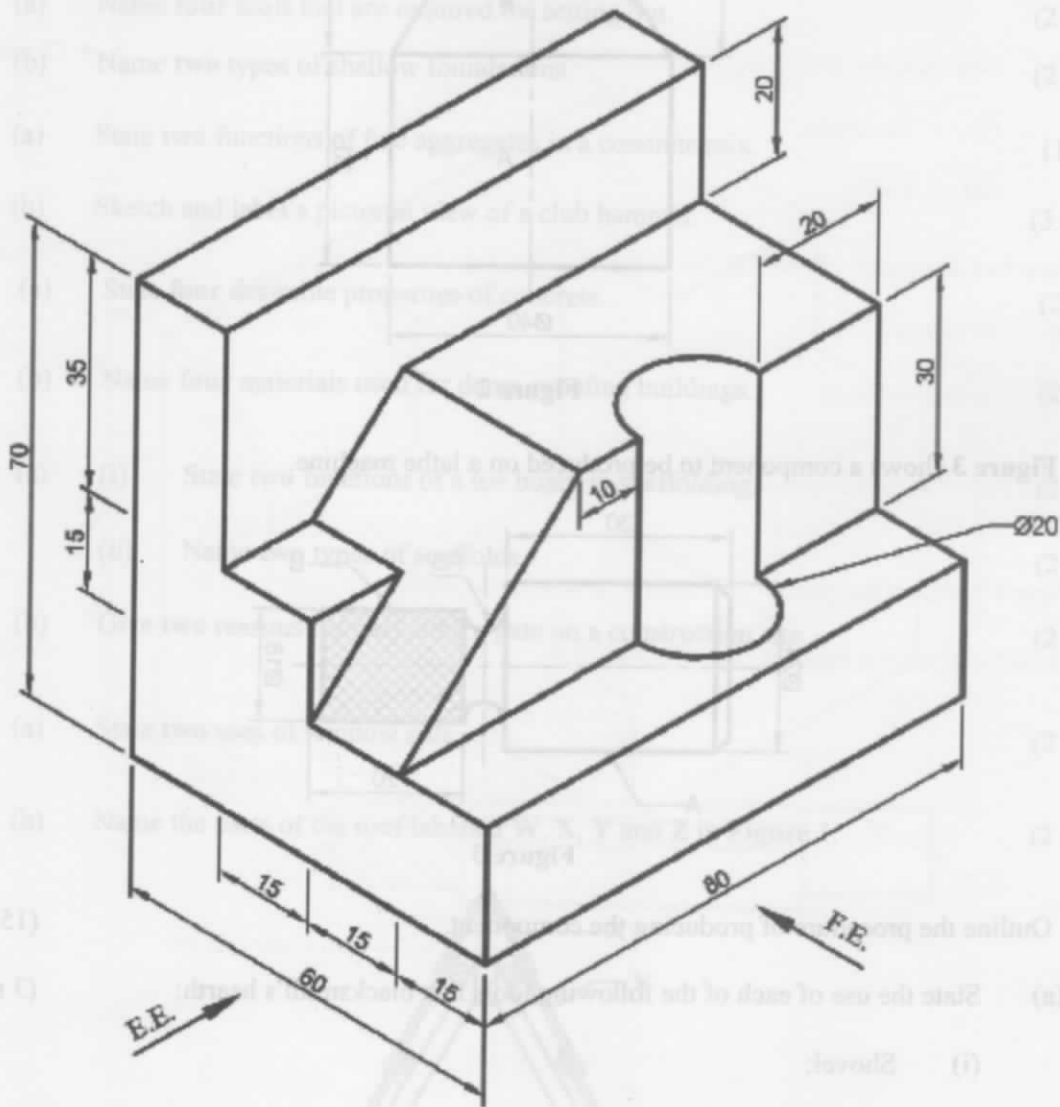

Figure 1
11. Figure 1 shows a shaped block drawn in isometric projection.